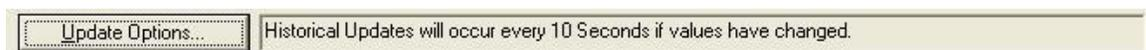

Figure 17
1. When you click the *Update Options* button (Figure 17) on the Field Mappings dialog, the Update Settings dialog appears.